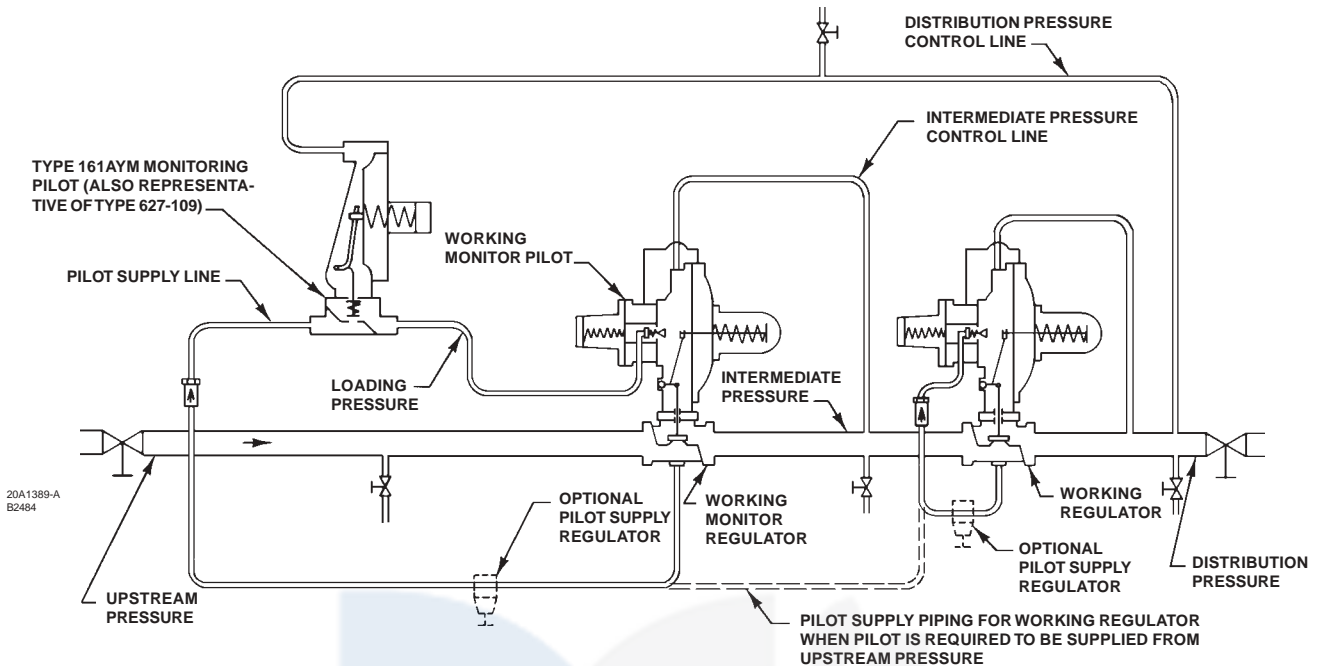

Figure 10. Working Monitor Installation
- Working Monitor**—On a working monitor installation (figure 10), the control line of the monitoring pilot is connected downstream of the working regulator. During normal operation, distribution pressure causes the monitoring pilot to stand wide open. Full pilot supply pressure enters the working monitor pilot and permits the working monitor regulator to control at its intermediate pressure setting.